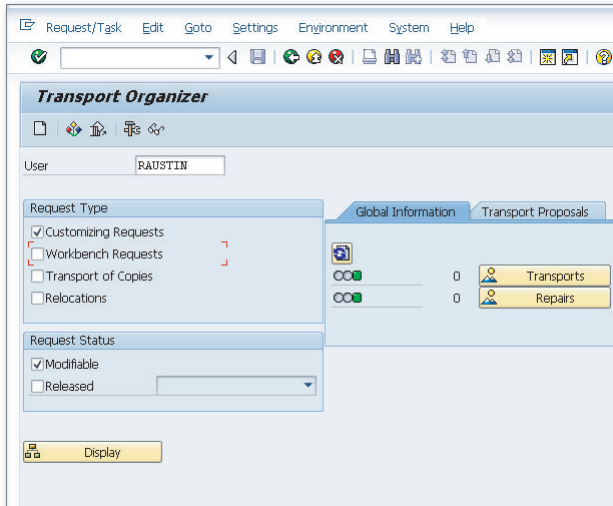

Figure 8.4 Transporting Objects in SAP BPC for NetWeaver—Part D
6. After a transport is created, it has to be released before it can be transported to the target system. Use Transactions SE09 and SE10 to display, maintain, and release transports (Figure 8.4). Specify the user or the request number to display transports.